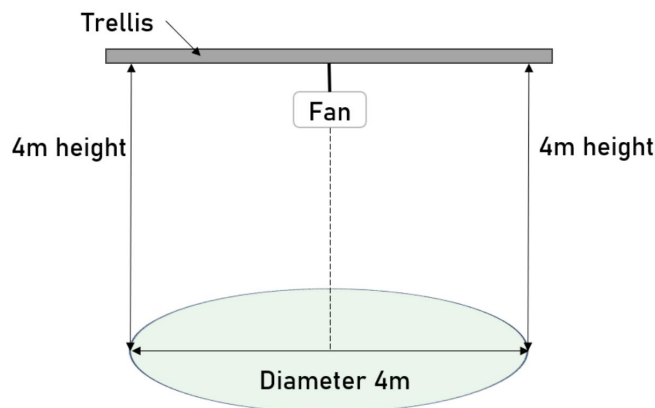

Figure 1 –ClimaFlow Fan safety zone
The ClimaFlow Fan must be installed at a minimum 4 meters above the ground. The height needs to be ensured for an area with a diameter of 4 meters as shown in figure 1.
- Turn the ClimaFlow fan off, if a person or animal will enter the safety zone (figure 1) with any part of their body.